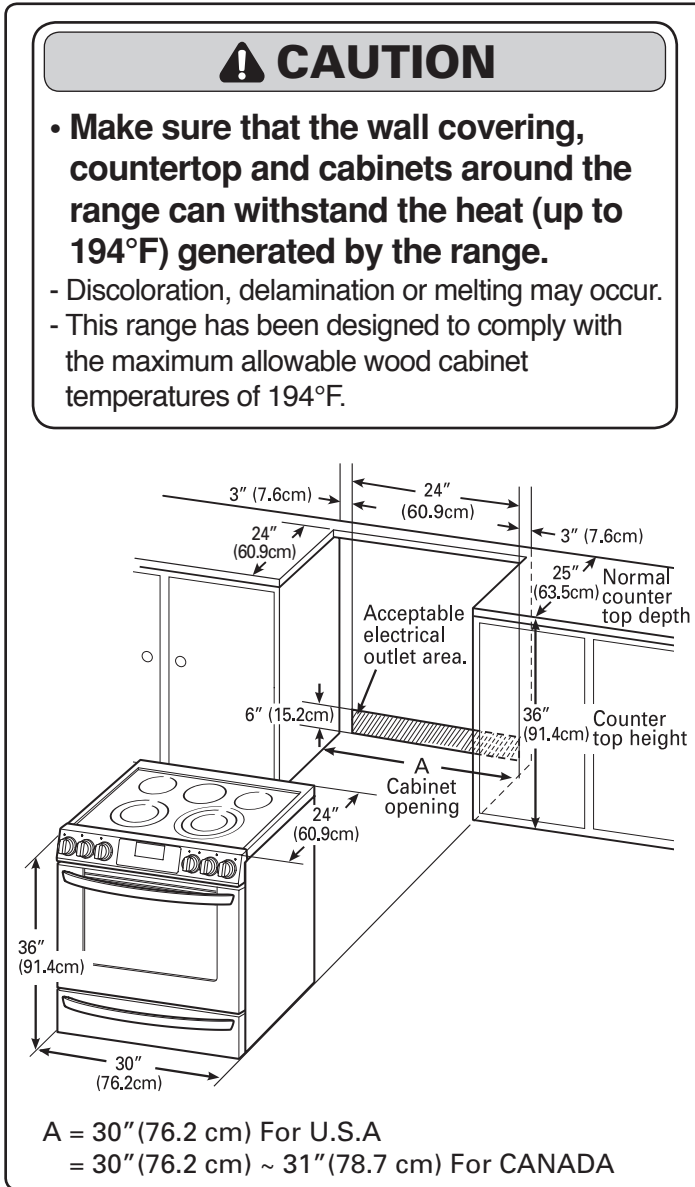

FIGURE 1
### CLEARANCES AND DIMENSIONS (Figure 1)
To install range refer to the following Figure 1.
**CLEARANCES AND DIMENSIONS (Figure 1)**